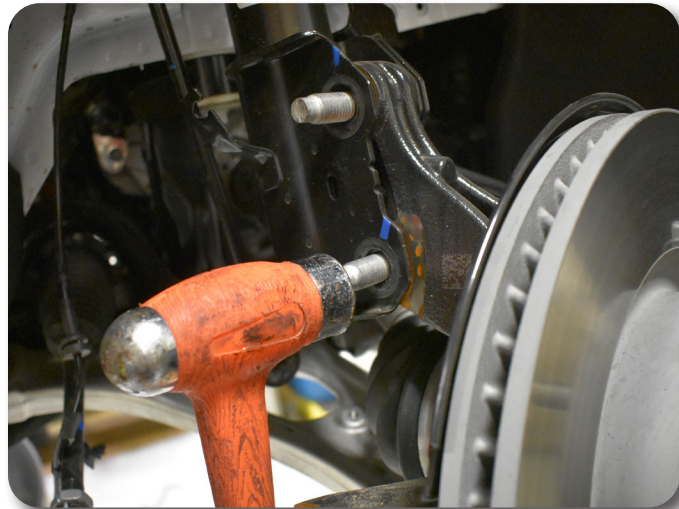

Figure 6
10. Remove the lower mounting bolts from the strut using a hammer to dislodge bolts. Figure 6